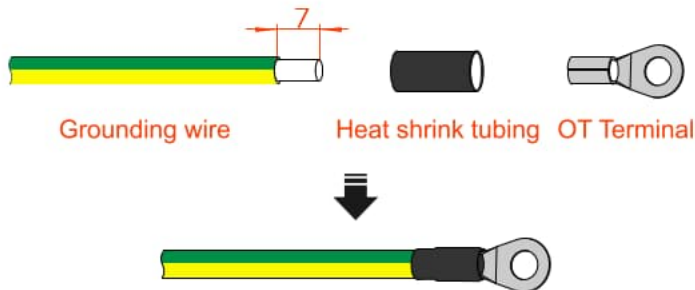

Figure3-13 Stripping diagram of external grounding wire (unit: mm)
- Step 1 Strip the insulation layer of grounding wire for about 7mm, insert the wire into OT terminal and crimp them by crimping tool, the as shown in Figure3-13.